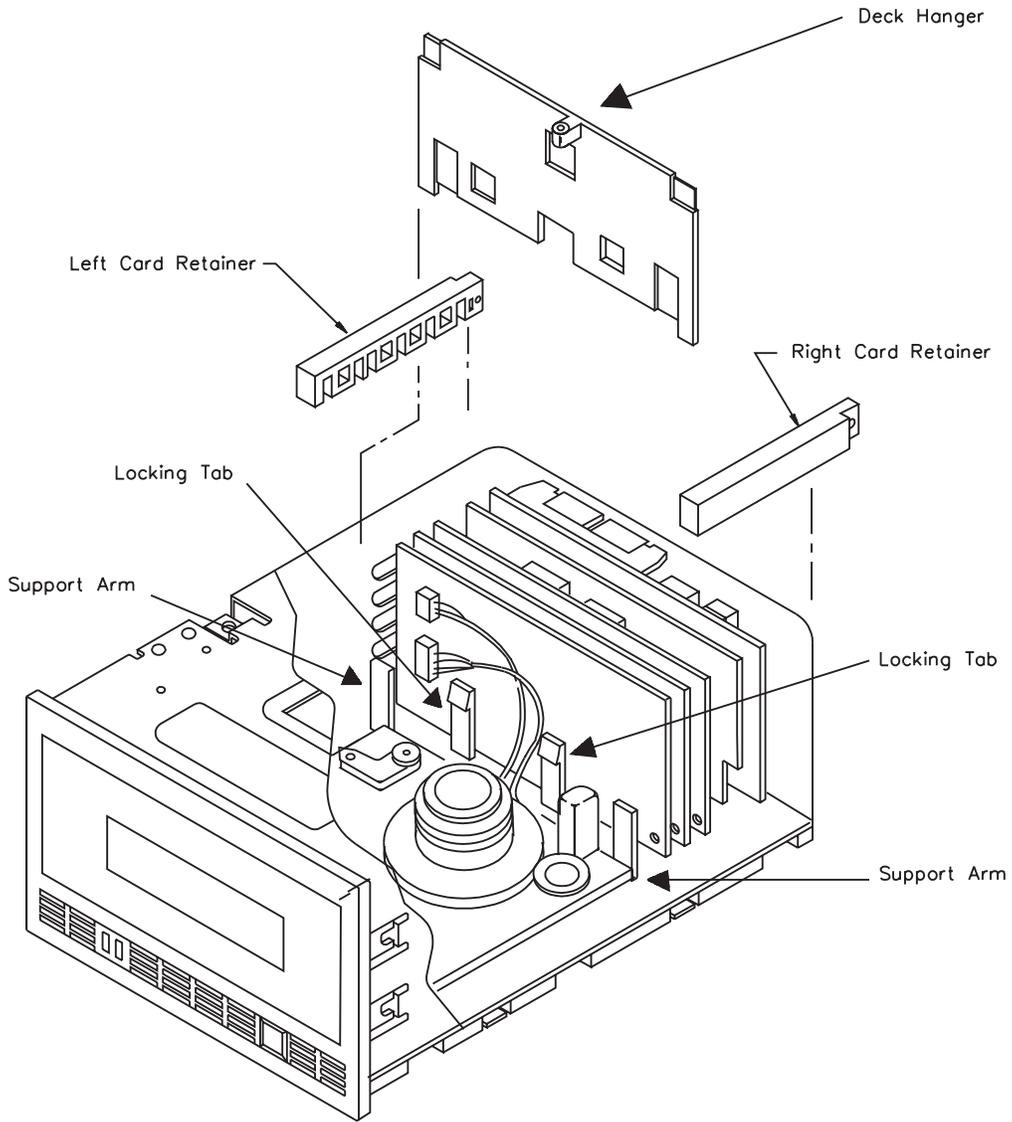

Figure 7-1
1. Locate the locking tabs that hold the deck hanger in place, as shown in Figure 7-1. The locking tabs protrude through the deck hanger from the rear of the EXB-8200.